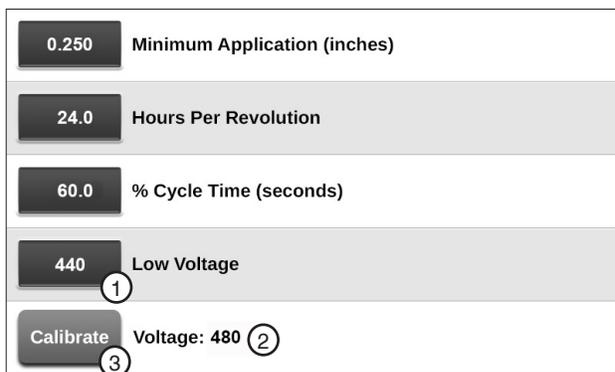

Figure 26-2 1. Low Voltage 2. Voltage 3. Calibrate
1. Push **Menu, Setup, Constants** and **System / Voltage** to display the System / Voltage screen. Refer to Figure 26-2.